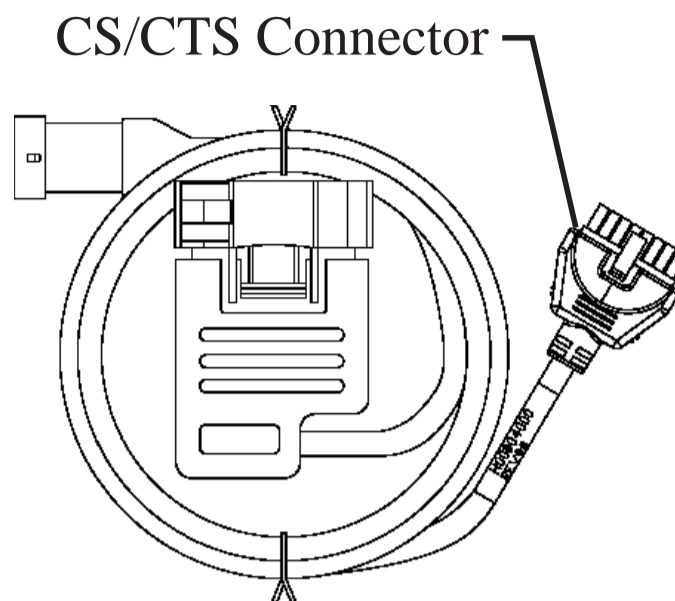

Figure 1 - DATA/OBDII
1. Locate the remaining Attitude Connector on the already installed DATA/OBDII Cable. (Figure 1)